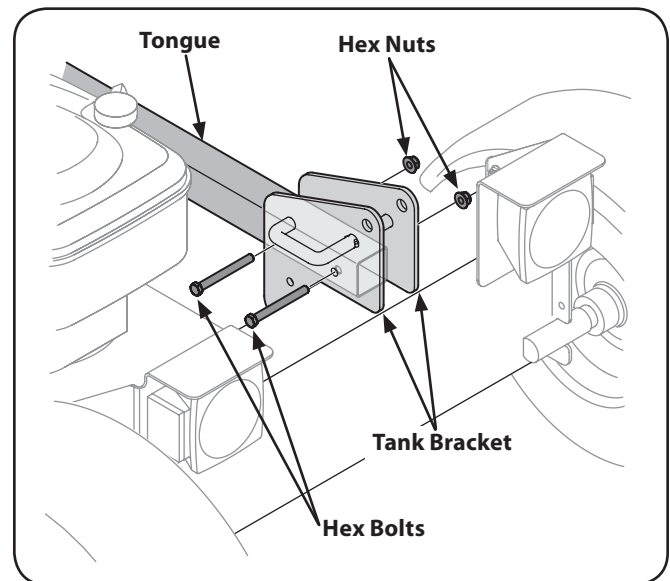

Figure 3-2
1. With the log splitter still standing upright, remove the two hex bolts and hex nuts from the tank bracket. See Fig. 3-2.
2. Align the holes in the tongue with the holes in the tank bracket and secure with the hardware just removed. See Fig. 3-2.